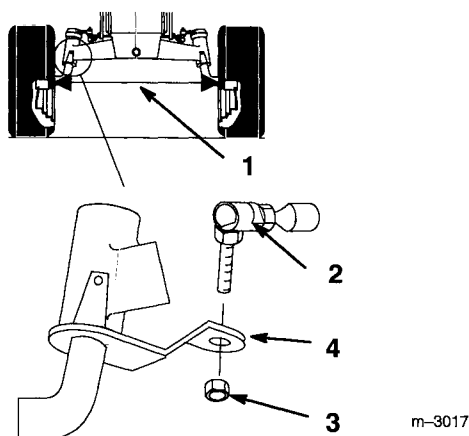

Figure 27
Maintain toe-in of the front wheels as specified. If uneven tire wear, lawn scuffing or hard steering develop adjustment may be required. Check the toe-in after every 100 operating hours or yearly, whichever occurs first (Fig. 27).
3. Measure, between the rims, at spindle level, in the front and rear of the wheels (Fig. 27).
2. Remove ball joint from one steering lever (Fig. 27).